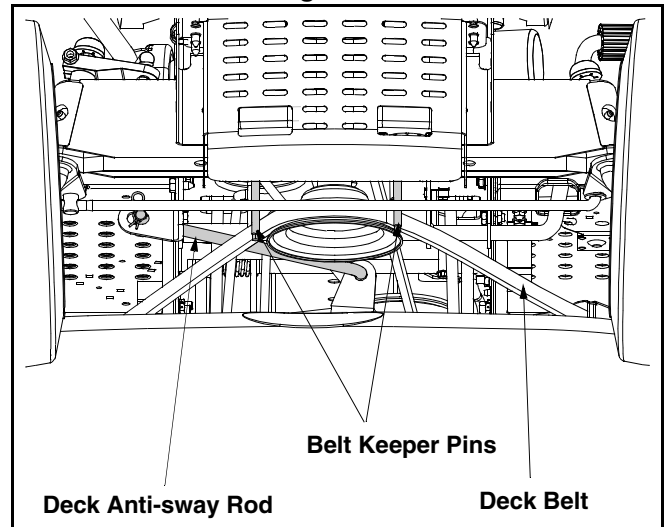
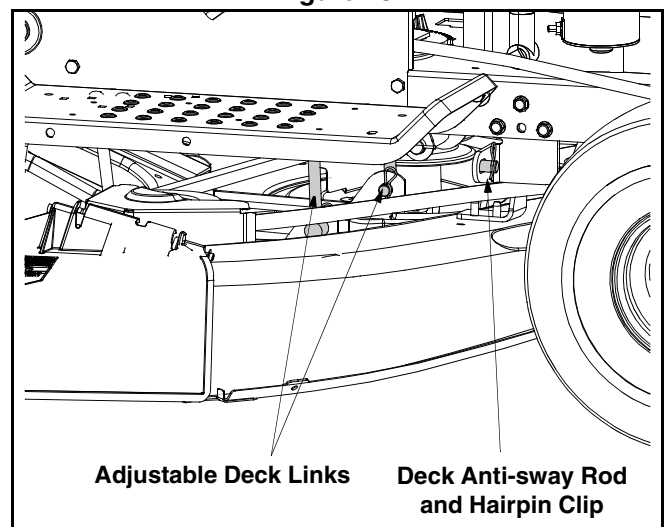

Figure 25
Figure 26
- Locate the two belt keeper pins, found on either side of the engine pulley, and use a 1/4-inch socket wrench to remove them from the lower frame. See Figure 25.
- Locate the deck anti-sway rod and adjustable deck links found near the front of the cutting deck. See Figure 25 & Figure 26.
- Locate the two belt keeper pins, found on either side of the engine pulley, and use a 1/4-inch socket wrench to remove them from the lower frame. Refer to Figure 25.